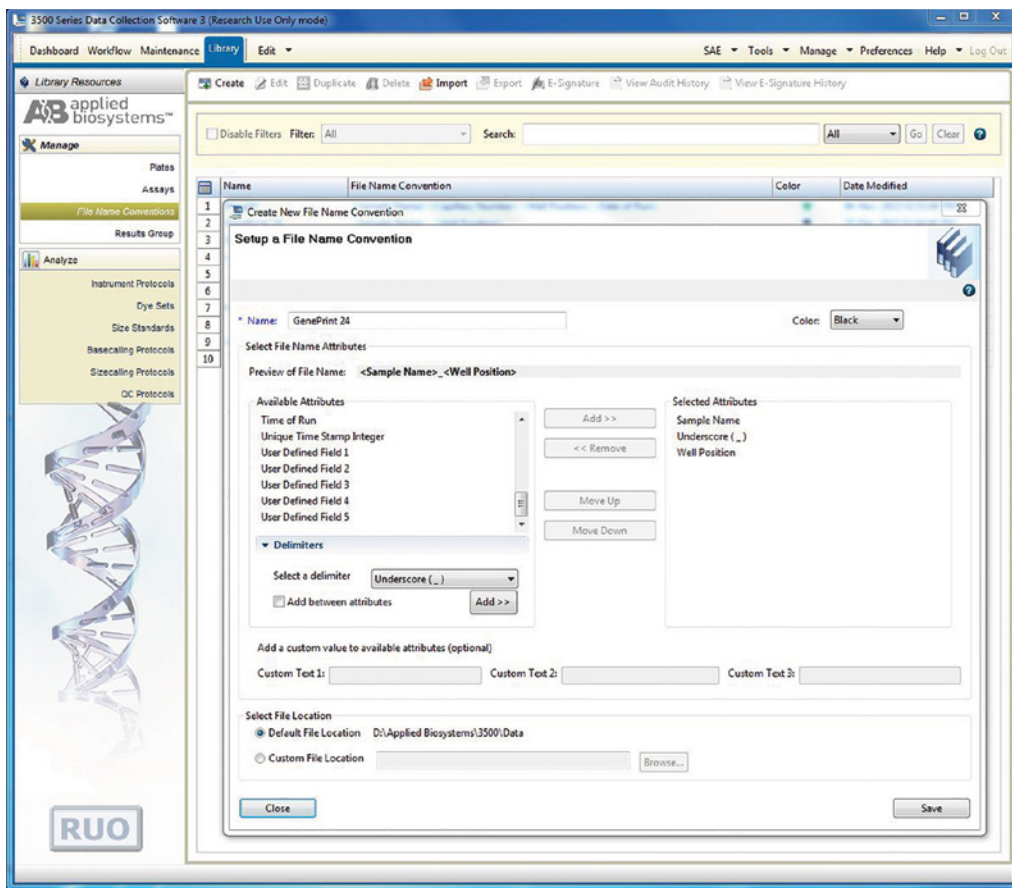

Figure 7. The ‘Setup a File Name Convention’ window.
6. Create a new File Name Convention. To create a new File Name Convention (Figure 7), navigate to the Library. Select **File Name Conventions**, and then select **Create**. Alternatively, a previously created File Name Convention can be used.